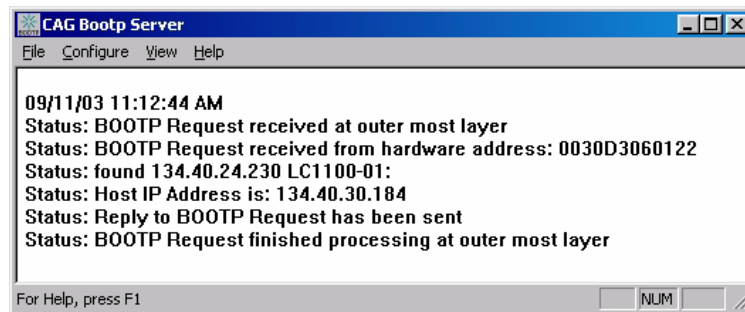

Figure 19 Bootp Server - 1100 module found
- 10 Press *OK* to exit the Bootp Manager and power cycle the instrument with the LAN Interface, to force it to send a new bootp request again. This time, the MAC address will be recognized by the Bootp Server (Figure 19). It will send the configured IP address and subnet mask information which are necessary for communication to the LAN Interface.